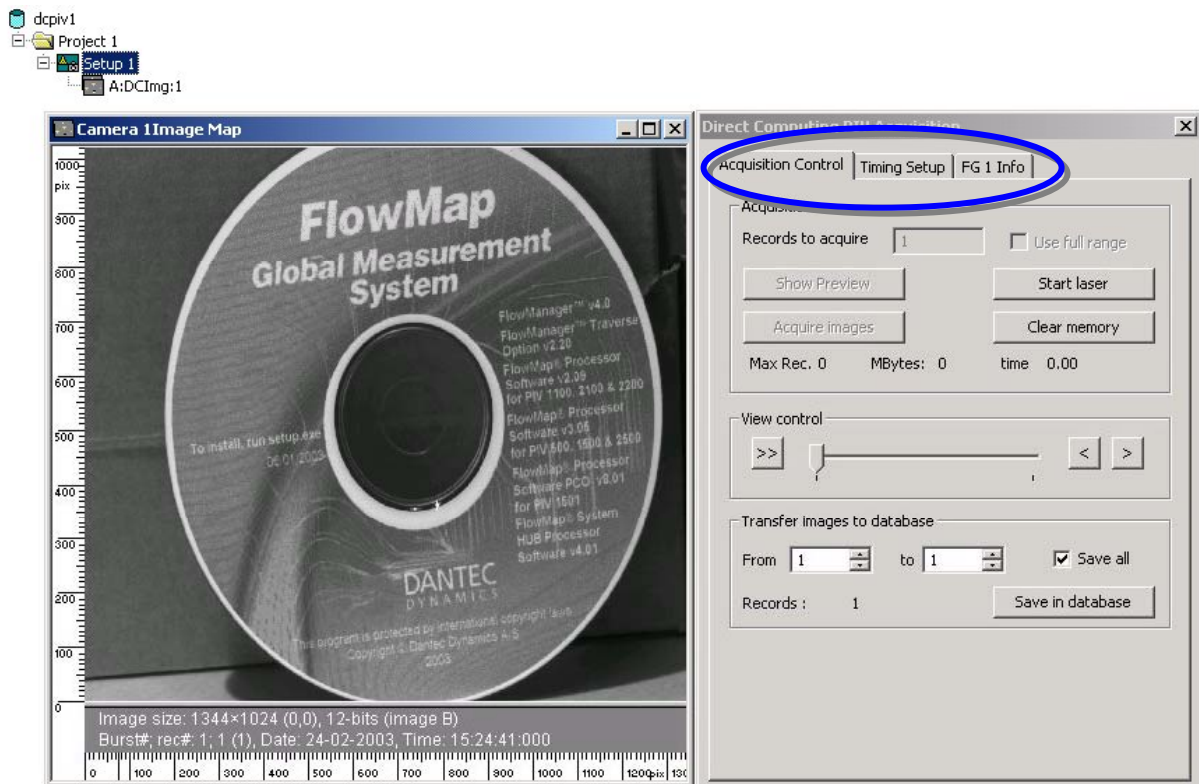

Figure 4-6: The online acquisition window with Acquisition control tab, Timing setup tab and camera Information tab(s)
- Frame grabber information (FG1 Info and FG2 Info when two cameras are installed) (see Figure 4.6).